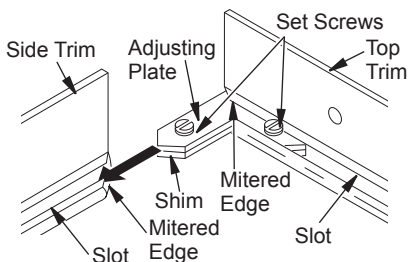

Figure 6 - Assembling Perimeter Trim
3. Align shim under adjusting plate as shown in Figure 6, page 10.
- Slide one end of adjusting plate/shim in slot on mitered edge of top trim (see Figure 6).
- Slide other end of adjusting plate/shim in slot on mitered edge of side trim (see Figure 6).
Built-in installation of this firebox involves installing firebox into a framed-in enclosure. This makes the front of firebox flush with wall. Optional brass trim accessories are available (see *Accessories*, page 20). The brass trim will extend past sides of firebox approximately 1/2". This will cover the rough edges of the wall opening. If installing a mantel above the firebox, you must follow the clearances shown in Figure 6, page 10. Follow the instructions below to install the firebox in this manner.